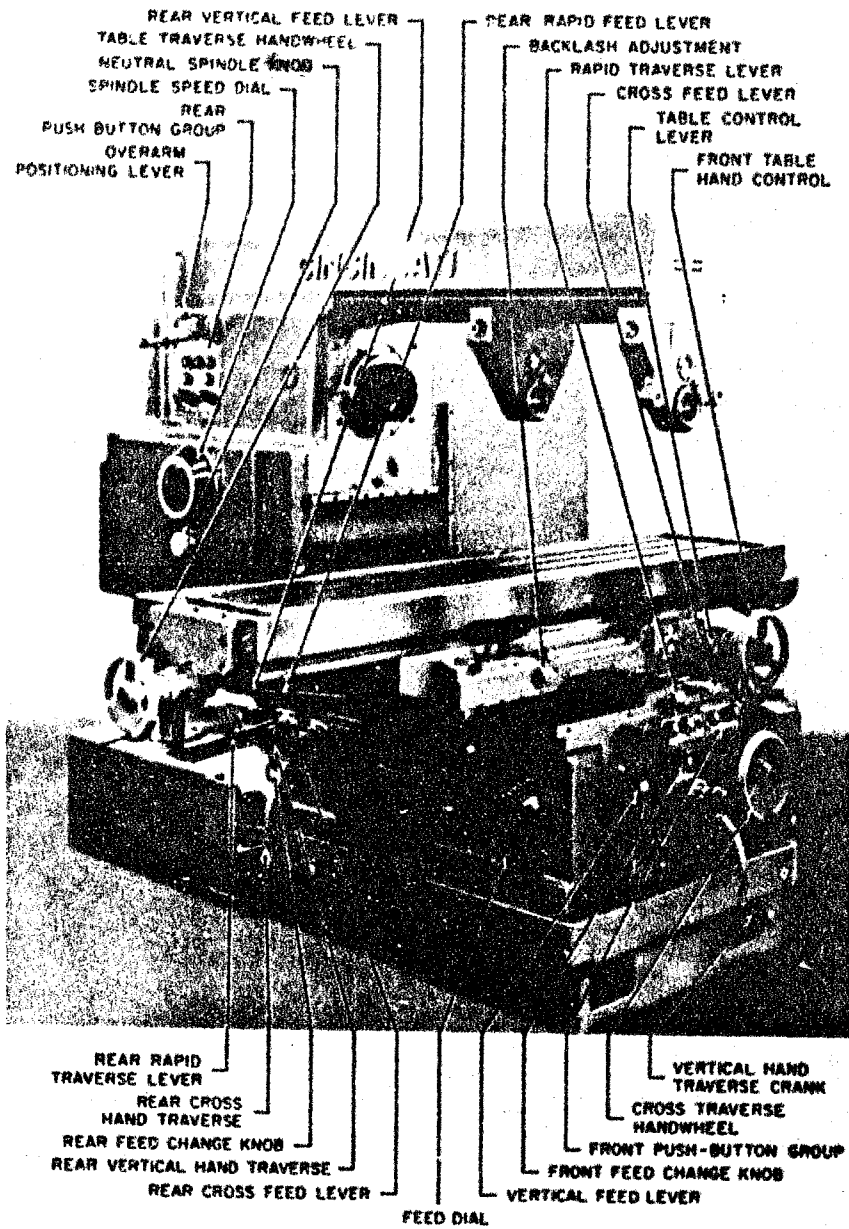
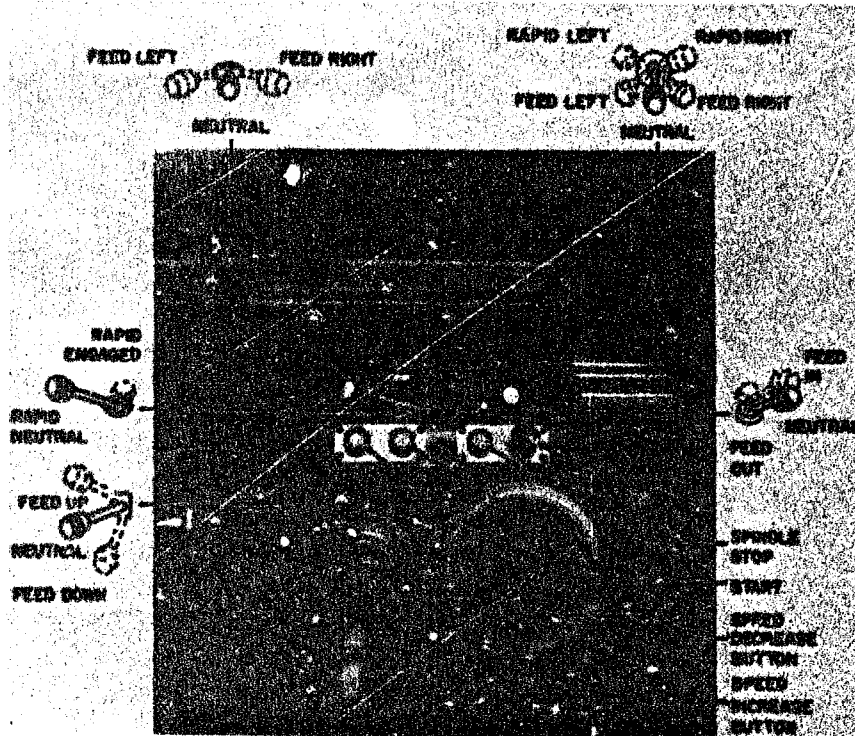

Figure 18
Figure 22
7. Thoroughly study the "Functional Diagrams" (Figures 18 and 19) and the "Operating Instructions," page 18.
Starting the Machine. Place all feed levers in their neutral or stop positions (Figure 22). Start the motor. **Note**—The hinged belt guard cover at the rear of the machine must be closed and latched before the push button will start the motor. Depress the "Spindle Start" button to start the rotation of the spindle. An automatic spindle brake is engaged when the "Spindle Stop" button is depressed, stopping the rotation of the spindle.
Changing Spindle Speeds. Start the motor. With the spindle stationary, and clear of the work, depress and hold the "Speed Increase" or "Speed Decrease" push button (Figure 22). When the spindle speed dial (Figure 18) rotates to the speed desired, lining up with the index mark, release the push button. Now, pause a second or two and then depress the "Spindle Start" button. The spindle will rotate at the speed indicated by the dial and index mark. The short pause mentioned, gives the gears time to fully engage, and thereby prevents clashing of the teeth.
Hand Table Feed. The table traverse handwheels (Figure 18), located at the front and left end of the table, control the movement of the table when the power feed is disengaged. When the handwheel is rotated one turn in a clockwise direction, the table moves away from the operator $\frac{1}{4}$ inch. The dial is graduated into 250 equal spaces, which is equivalent to .001" movement of the table for each space.
Hand Vertical Feed. The vertical hand traverse crank (Figure 18) enables the spindle carrier to be moved up or down when working from the front of the machine. One clockwise turn moves the carrier up 1/20 inch. The dial is graduated into 100 equal spaces, which is equivalent to .0005" movement of the carrier for each space.
Power Feed Table. Longitudinal power movements of the table are engaged from the front of the machine by means of the table control lever (Figure 18). To feed the table left, move the lever to the left; to feed the table right, move the lever to the right. Power rapid
traverse is obtained by first engaging the power table feed and then engaging the rapid traverse lever (Figure 18). Loosen the table clamping screws before engaging the table feed or rapid traverse. It is also advisable to tighten the saddle and carrier clamps when using the table feed alone. See "Clamping Devices for Sliding Units", pages 29 and 30.
Power Cross Feed. Traverse power feed movements of the saddle are engaged by means of the cross feed control lever (Figure 18). To feed to the rear, shift lever to the rear, to feed to the front, shift lever to front. Before engaging the cross feed, loosen the saddle clamp. It is also advisable to tighten the table clamping screws when using the cross feed. See "Clamping Devices for Sliding Units", pages 29 and 30.
Power Vertical Feed. Vertical power feed movements of the carrier are engaged by means of the vertical feed control lever (Figure 18). Shift the lever upward to raise the carrier, downward to lower the carrier. Before engaging the vertical feed, loosen the carrier clamp. It is also advisable to tighten the table clamping screws and saddle clamp when using the vertical feed alone. See "Clamping Devices for Sliding Units", pages 29 and 30. Power vertical feed rates are $\frac{1}{2}$ the rates shown on the feed dial.
Changing Feeds. Start the motor. The spindle should be stopped and all front and rear feed engaging levers should be in their neutral or stop positions. Rotate the feed change knob (Figure 18) clockwise or counter-clockwise and hold until the desired feed shown on the feed dial (Figure 18) is registered with the index mark. Release the feed change knob. The proper feed gears are now in mesh to move the table at the feed rate indicated by the dial and index mark.
Power Rapid Traverse. The power rapid traverse, controlled from the front of the machine by the rapid traverse lever (Figure 18), may be engaged at any time and for any direction of travel with the spindle either running or stationary. (Of course, the motor must be running.) The feed lever, which will give the direction of travel desired, must be engaged at the time the rapid traverse lever is engaged.—*Always engage the feed lever first, especially when using the vertical rapid traverse.* The rapid traverse rate for the longitudinal and cross movements is 150 inches a minute, while the vertical rate is 75 inches a minute.